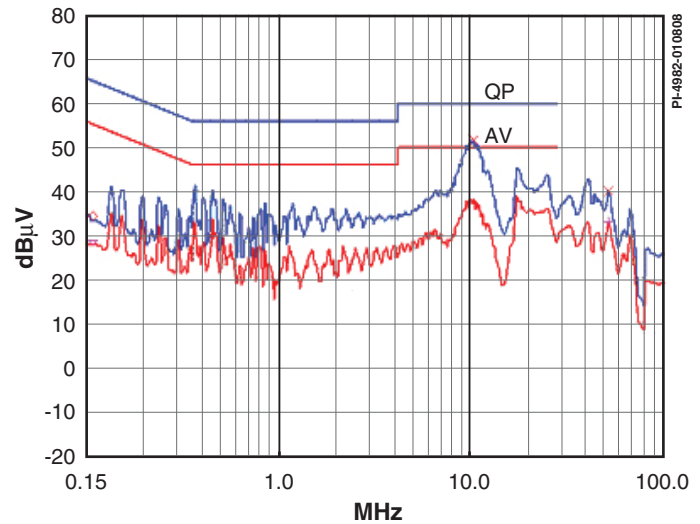

Figure 3. Conducted EMI Scan to EN55022 B Limits. Measurements Made at 230 VAC With Output RTN Connected to Earth Ground Representing Worst Case Conditions.
- Meets EN55015B conducted EMI limits with >8 dB μ V of margin (see Figure 3)